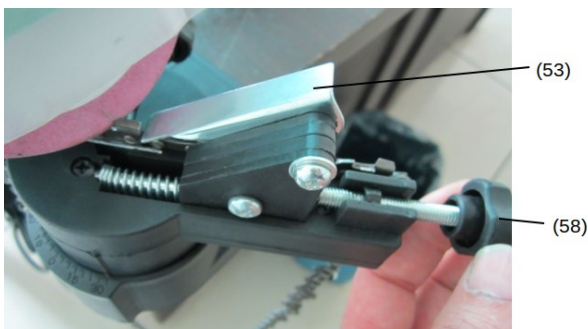

Figure 5: Chain stop (53) and screw (58)
3. Lower the **chain stop (53)** so that it is positioned on the tooth (blade) you want to start with (see **fig. 5**). The tip of chain stop needs to be positioned against the tooth.
7. Depending on the amount of material you wish to remove, tighten or loosen the **screw (58)** and set the lock nut accordingly (see **fig. 5**). The lock nut of the **screw (58)** will determine how much material is removed. Once you set the lock nut, fully tighten the **screw (58)**.